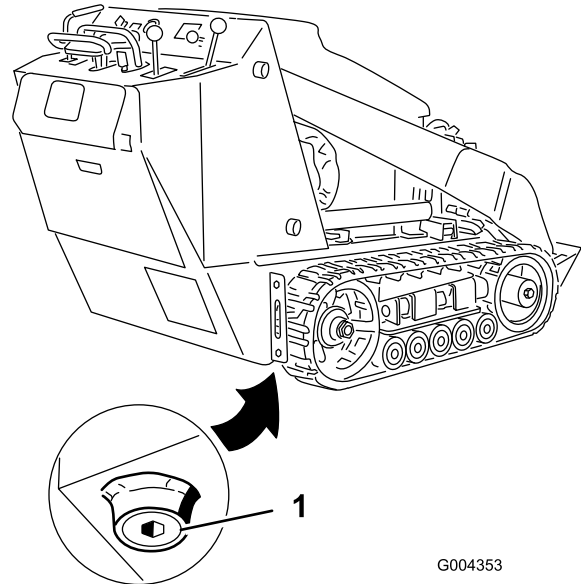

Figure 33
4. Remove the drain plug (Figure 33).